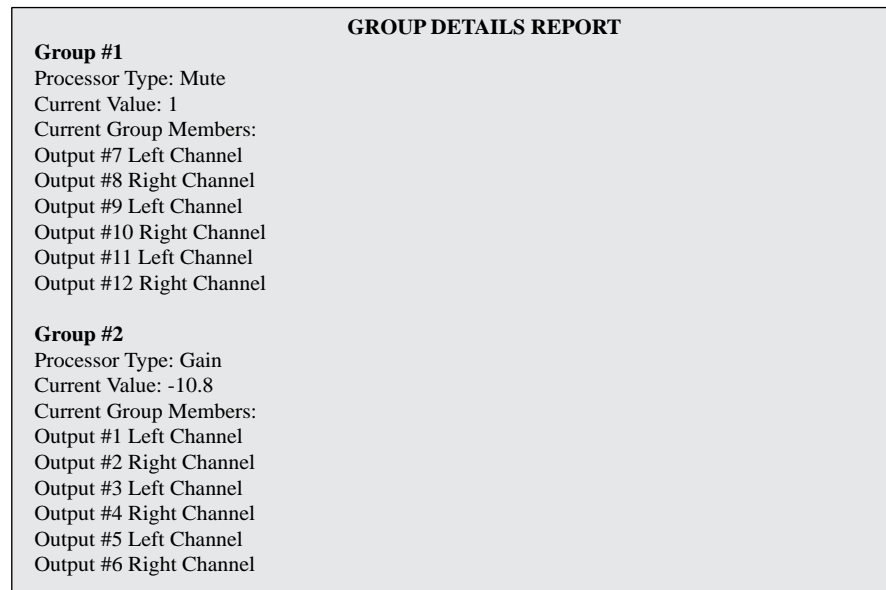

Figure 5-14 — Sample group details report
- Click **Tools > Group Details Report** to create a Microsoft Word file that details all created groups (figure 5-14).